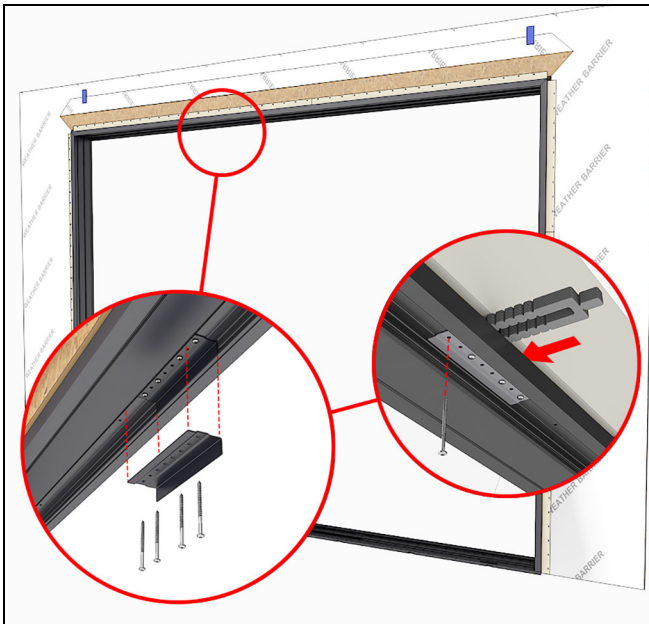

Figure 131
3. Fasten through the bracket into the head jamb framing with #10 x 3" installation screws at each pre-drilled location. Shim above the bracket as needed. See Figure 131.